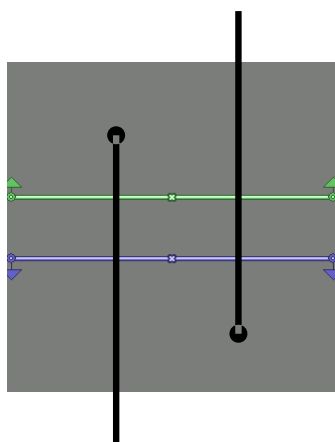

Figure 4.3
- By standing still for long enough that the counter loses that person's target (**Figure 4.3**).
Figure 4.3 shows the path that two people took to walk through the field of view of a counter. In this case both people stopped within the field of view long enough for the counter to lose their target. At this point an output would be given for the line that they crossed.